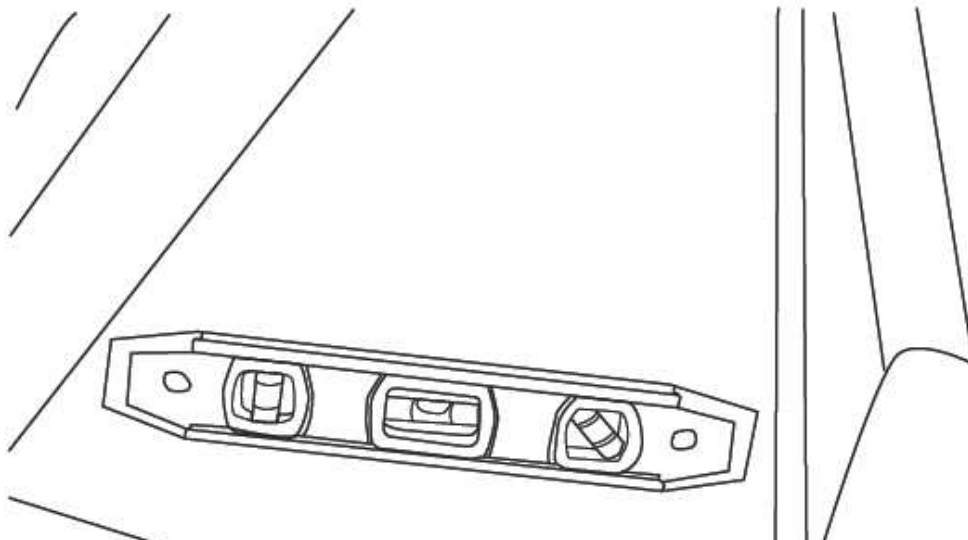

Figure 21
- 21)** Level as close as possible the exit runway surface horizontally from side to side, approximately 9" up from the exit end, using a small level as shown in Figure 21.